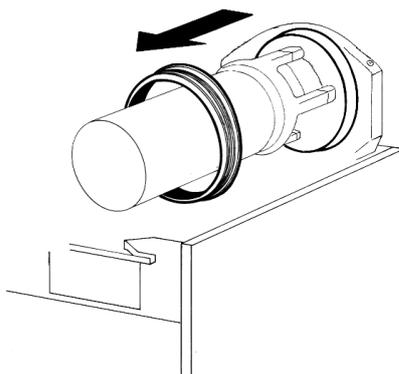

**figure 7**
**3** Slide the outer spiral out (see figure 7) and then the inside auger (see figure 8).